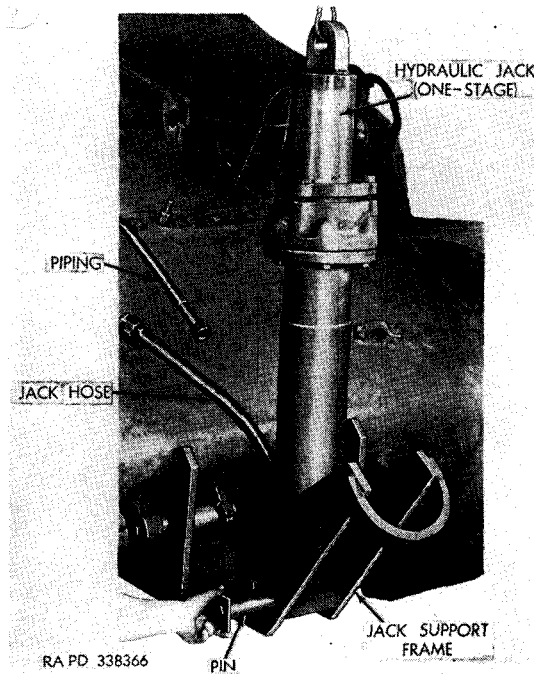

Figure 36. Connecting hydraulic jack to jack support frame—bulldozer M1.
e. **INSTALL HYDRAULIC JACK (BULLDOZER M1)** (fig. 36). Install the long hose to the jack. Install the hydraulic jack in jack support frame and insert connecting pin. Lock with a cotter pin. Couple the long hose to the piping.